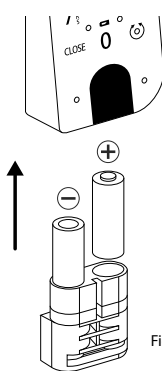

Fig. 5
③ Insert two new batteries. Make sure that the polarity is correct according to the drawing (Fig. 5).